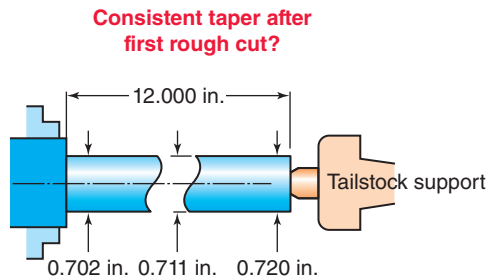

Figure 11-147 This part was produced on the first rough cut. What could the problem be?
1. *Taper in First Part After First Roughing Pass.* Turning a length of $\frac{3}{4}$ -in.-diameter CRS stock down to 0.625 in., after the first rough cut you've found a problem. Using a micrometer on both ends and the middle, plus testing it with a straightedge, you find a straight taper (not barrel shaped) with the tailstock end being the largest size. The difference end to end is 0.018 in. (Fig. 11-147).